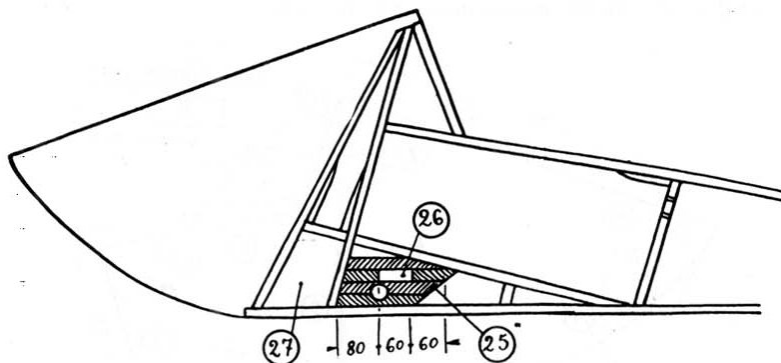

Figure 3.4: Openings at bottom of cockpit
Make the blocking (25) in fig. 3.4 with pieces of slats, leaving the gap 26 which measures  $20 \times 60$ . With the tip of a knife, remove the plywood over this void; the pulley of the rudder cable will be placed there later. Also remove the plywood covering the quadrilateral (27), through which the axle will pass.
Cut off the excess of the branches of the lyre and plane away the side material (1) that extends above the lyre; for that purpose, the sides were drawn out in Figure 3.4 with 30 mm instead of 20 mm.